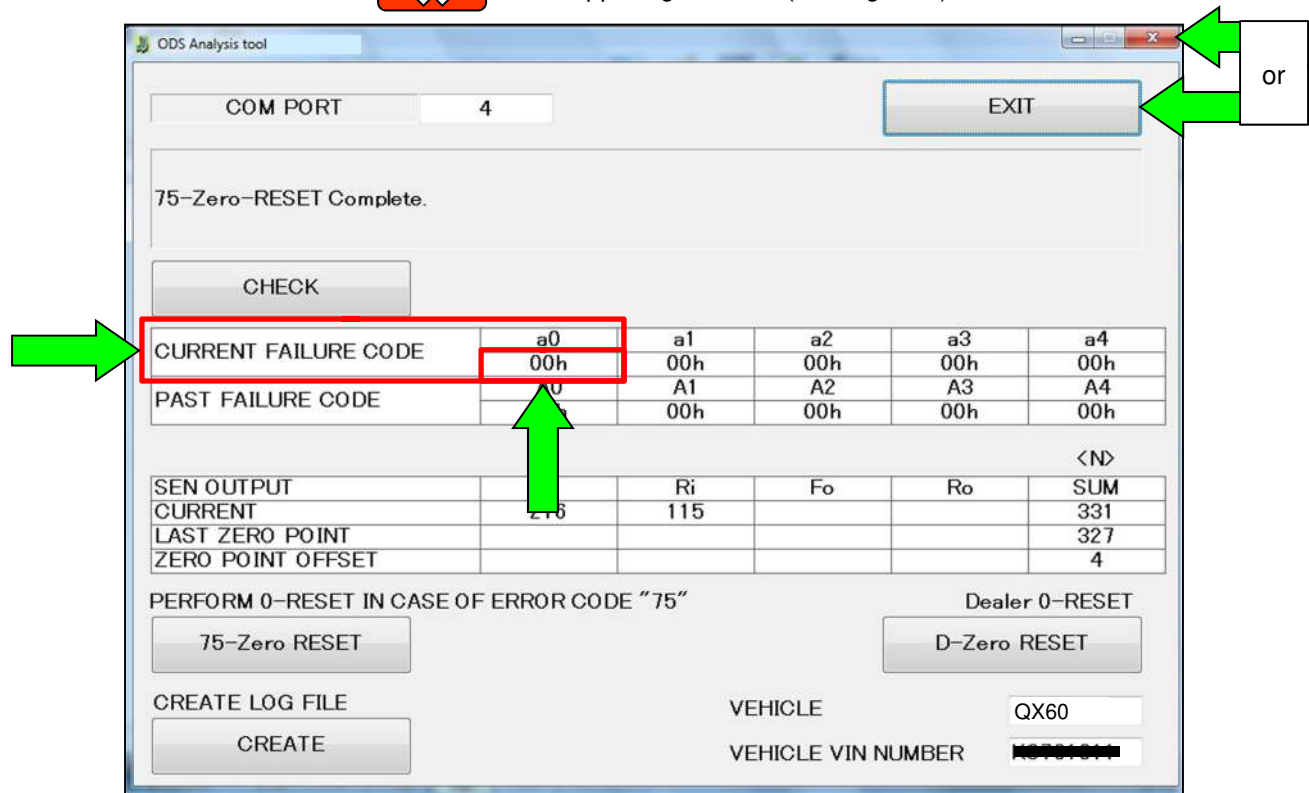

Figure 9
16. When the screen in Figure 9 displays, the 75-Zero reset process is complete.
17. Select either EXIT or the  in the upper right corner (see Figure 9).